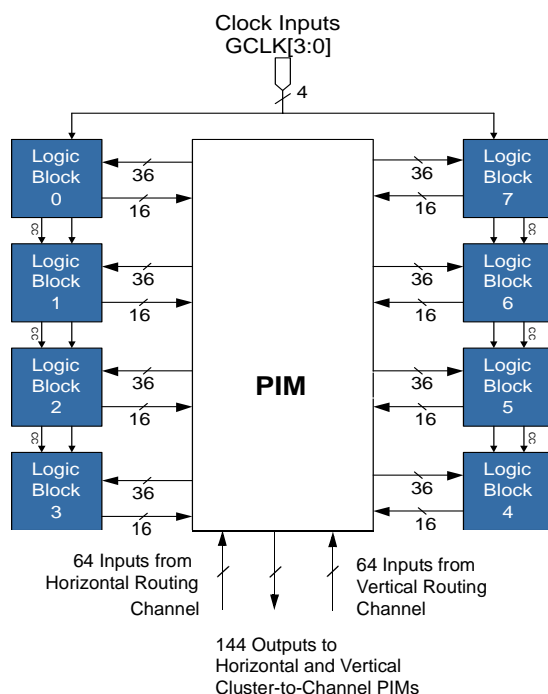

Figure 3. Quantum38K Logic Block Cluster Diagram
The Quantum38K architecture consists of several logic block clusters, each of which have eight Logic Blocks (LB) connected via a PIM, as shown in *Figure 3*. All LBCs interface with each other via horizontal and vertical routing channels.